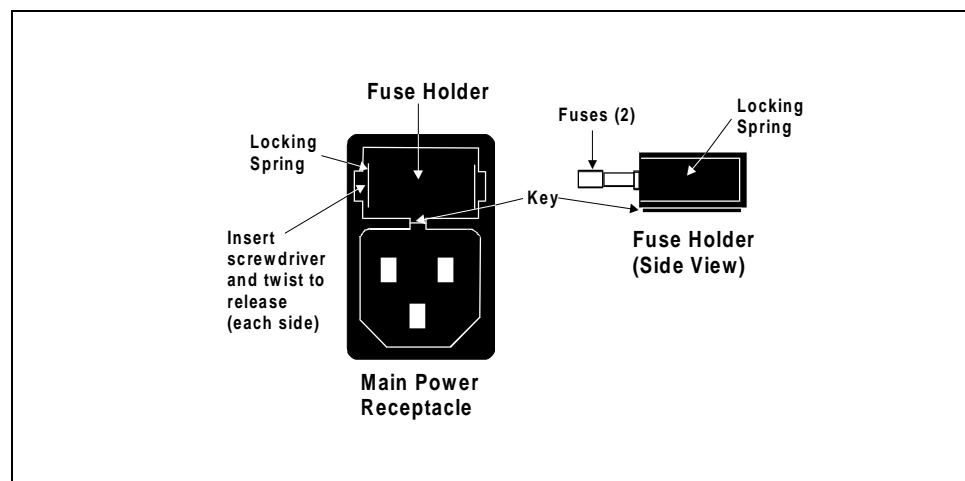

Figure 5-5. Main Power Fuse Holder
2. The fuse holder is part of the main power receptacle on the rear panel. A recessed lock is located on each side of the fuse holder (see Figure 5-5). Using a small screwdriver or your fingernails, push each lock toward the center to release it. The fuse holder pops out approximately 0.16 cm ($\frac{1}{16}$ inch) when the locks release. When both locks are released, pull the fuse holder straight out of its compartment.